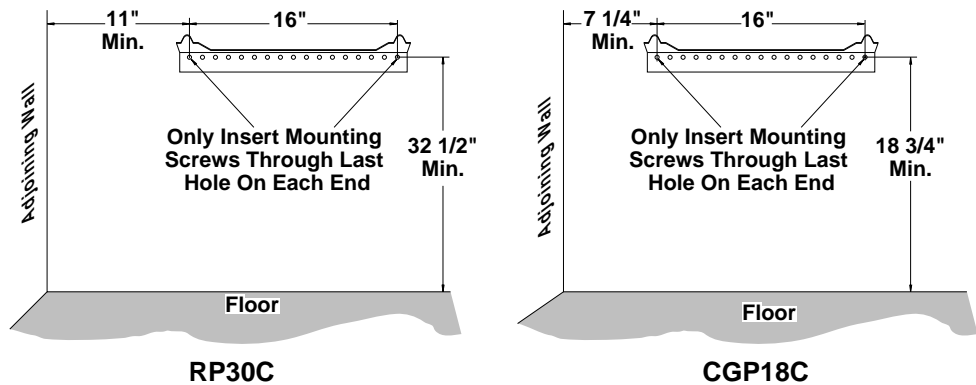

Figure 7 - Mounting Bracket Clearances
Maintain minimum clearances shown in Figure 7. If you can, provide greater clearances from floor and joining wall.
2. Mark screw locations on wall (see Figure 7).